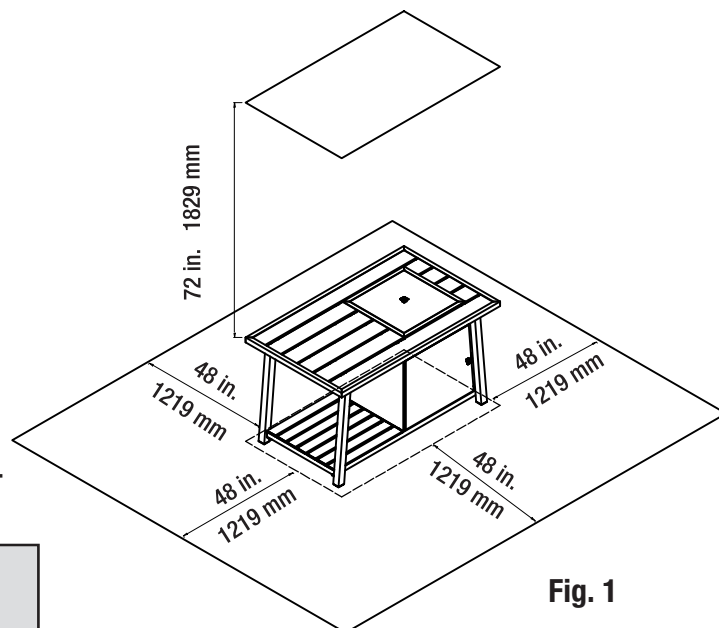

Fig. 1
- Minimum clearance from combustible constructions: rear and side: 48 in. / 1219 mm, top 72 in. / 1829 mm. (Fig.1)